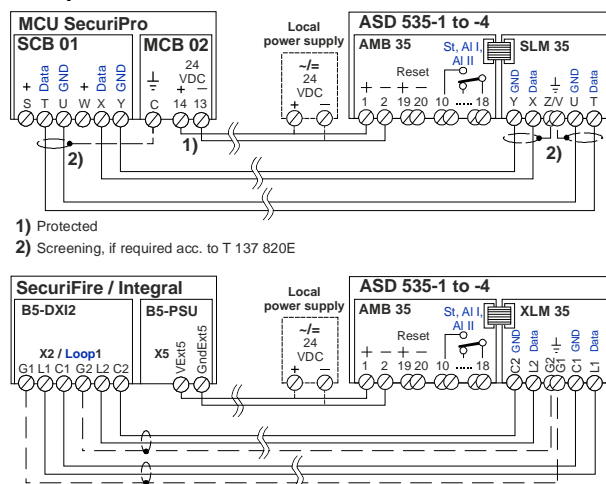

Fig. 40 Wiring from XLM 35 / SLM 35
- The circuitry and wiring routing between **SLM 35** and the FACP SecuriPro, SecuriFire or **Integral** must be carried out as shown in **Fig. 40** (X on X, Y on Y or X on L2, Y on C2, etc.).
- The circuitry and wiring routing between **XLM 35** and the FACP SecuriFire or **Integral** must be carried out as shown in **Fig. 40** (L1 on L1, C1 on C1, etc.).